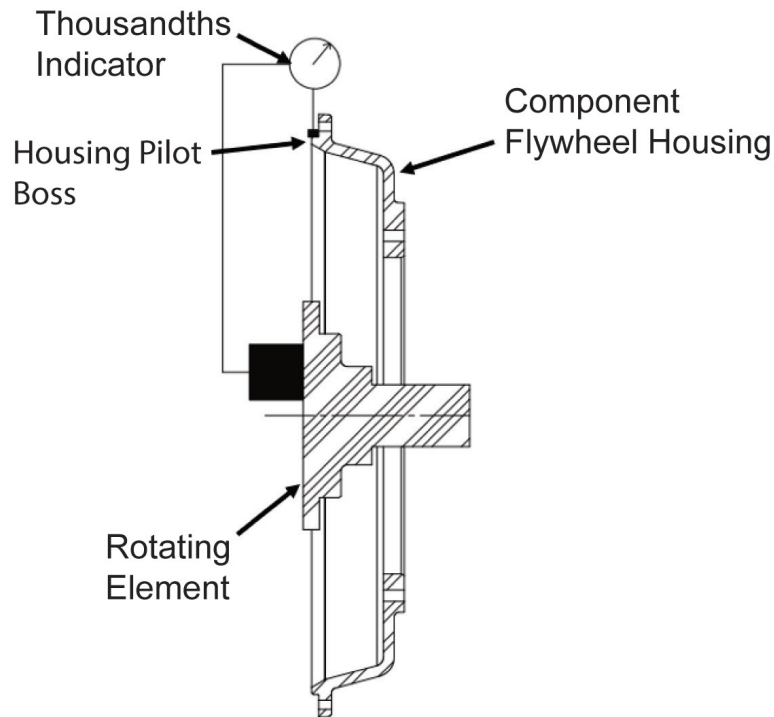

Figure 10. Checking Mating Driven Component Housing Pilot Boss Eccentricity
3. With the indicator mounted as in the paragraph above, adjust the indicator tip so that it will ride on the mating flywheel housing pilot boss. See Figure 10.